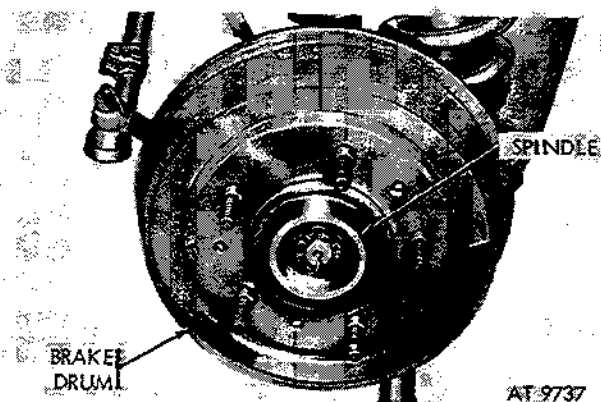

Figure 2-310. Remove brake drum.
(3) Remove brakedrum from spindle (fig. 2-310).